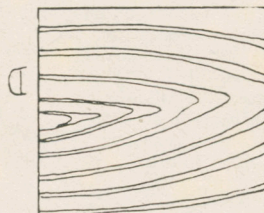

Fig. 2—Oak graining
Oak graining for the amateur can be limited to straight work, drawing the leather combs down or across the stiles and rails, and working a flowering for the panels with the finger nail, covered with a piece of soft rag. Fig. 2 (D) shows a suggestion as to the latter. It is really a simple job, and a little practice on a spare piece of wood will help to acquire the knack. A study of a grained door or piece of furniture, or a plank of the actual wood, will be more helpful still.